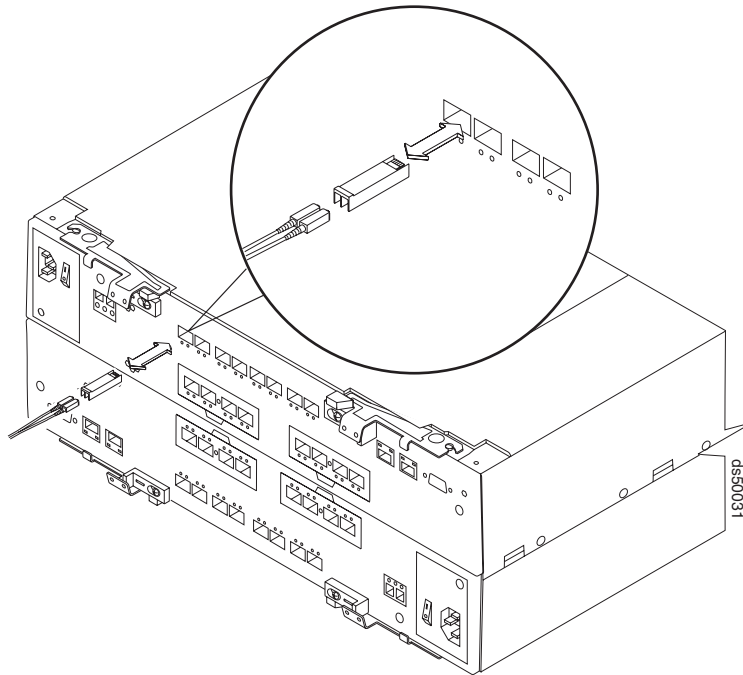

Figure 21. Replacing an SFP or SFP+ module
4. Insert the SFP or SFP+ module into the fibre channel port until it clicks into place. See Figure 21 on page 54.
Note: The alignment of the fibre channel ports on controller A are opposite those of controller B. Before inserting an SFP or SFP+ module into a port, verify that the SFP or SFP+ module is rotated correctly to match the alignment of the port on the RAID controller. Do not force-fit. For fibre channel ports in controller A, SFPs or SFP+s should be inserted with the exposed printed circuit facing up (as shown in Figure 21). For fibre channel ports in controller B, SFPs or SFP+s should be inserted with the exposed printed circuit facing down.